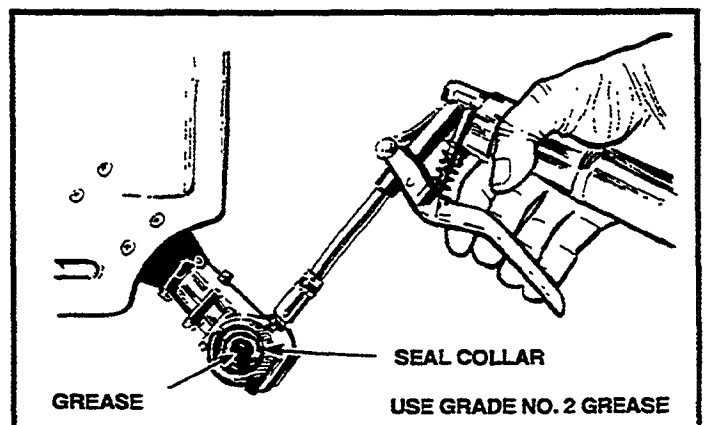

Figure 22
- Each 10 hours of use, the gearcase should be regreased by first removing the cutting head (or blade), blade holder, and seal collar (Figure 22).